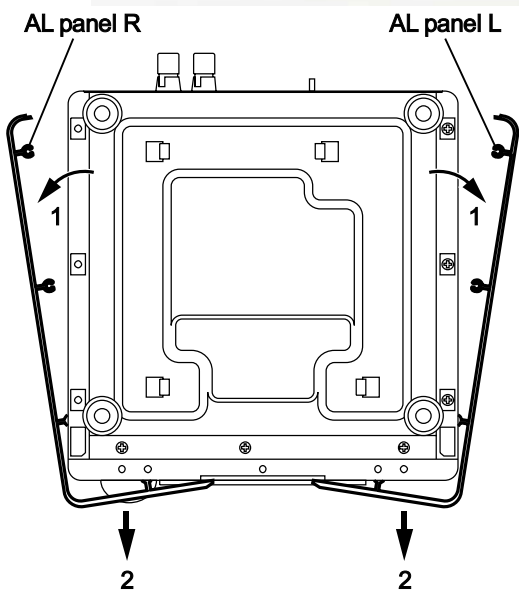

Fig.7
- Remove the AL panel L and AL panel R in the direction of the arrow 2 while extending the back section of the AL panel L and AL panel R in the direction of the arrow 1. (See Fig.7.)